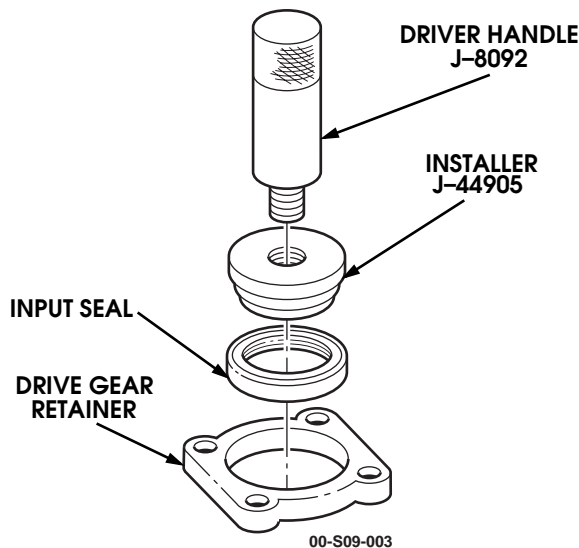

Figure 9-30: Input Seal Installation
2. Using driver handle J-8092 and input seal installer J-44905, install input seal in drive gear retainer. Place the new primary seal on the installer with the seamed side of the stainless steel perimeter facing toward the drive gear retainer. Drive the seal in until the installer bottoms against the drive gear retainer. The seal will be recessed in the drive gear retainer approximately 0.310". This dimension is critical and must be achieved using the special tool. (Figure 9-30).